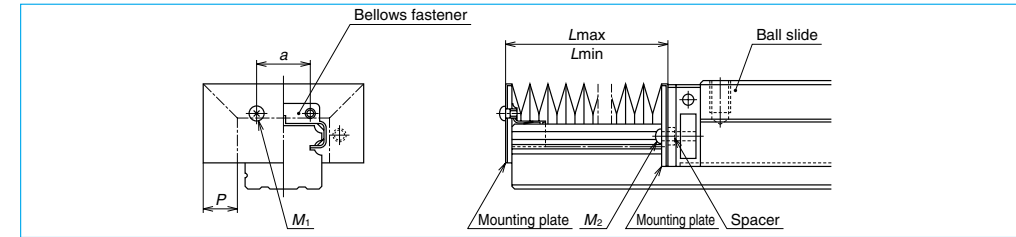

Fig. II-5-9
① LH and LS Series
**\* Installation in the ball slide (Fig. II-5-9)**
- Remove two machine screws (M2) which secure the end seals to the end of the ball slide (Fig. II-5-9).
- To install bellows for LH Series and LS Series, lightly knock a fastener exclusively for bellows to the end of the rail (Fig. II-5-9). Then secure the mounting plate at the end of the bellows through the tap hole of the fastener.